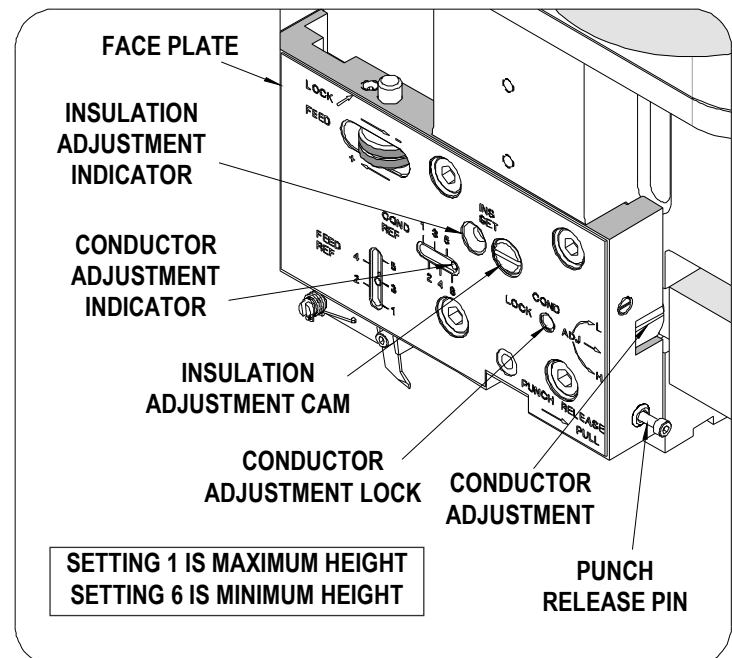

Figure 3-3 HEIGHT SETTING
2. Set both the conductor and insulation indicators to a reference setting of "1". See Figure 3-3.
4. Set both the conductor and insulation indicators to a reference setting of "1". See Figure 3-3.